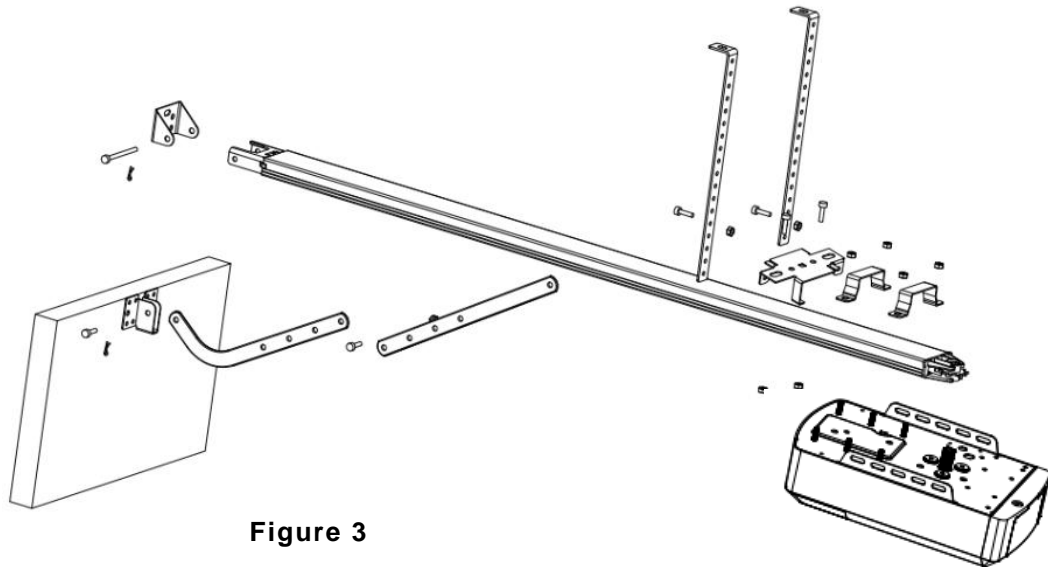
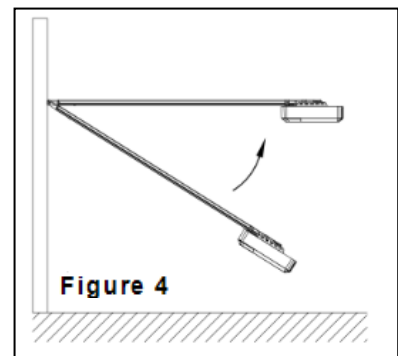

Figure 3
Figure 4
STEP1 (Fig.3)
STEP2 (Fig.3)
STEP3 (Fig.3, Fig.4)
STEP4 (Fig.3, Fig.5)